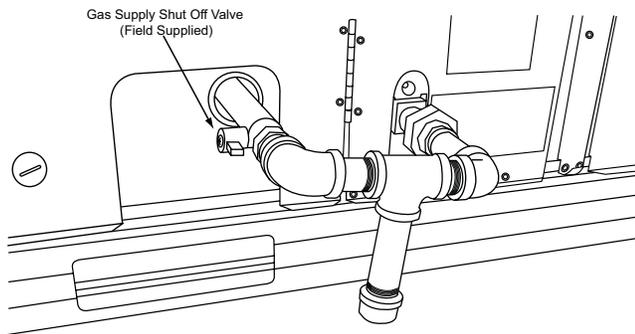

Fig. 2 – Gas Supply Shut-Off Valve (Thru the base gas supply shown.)
Step 2 — Turn off the gas supply by closing the gas supply shut-off valve (external to RTU unit). See Fig. 2 for location.